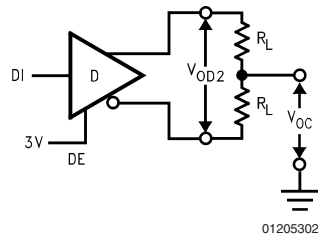

FIGURE 1. Driver V_{OD2} and V_{OC}
| V _{OD2} | Differential Output Voltage (Termination Load) | R _L = 50Ω | | (422) | Figure 1 | 2.0 | 2.8 | | V |
| V _{OC} | Driver Common Mode Output Voltage | R _L = 27Ω | | (485) | Figure 1 | 0 | | 3.0 | V |